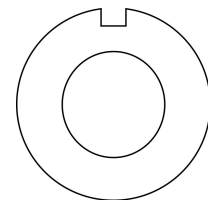

Figure 4-43 Air Rake Alignment Ring
3. Reinstall air rakes making sure that they are oriented as before with the notch on the alignment ring facing up, Figure 4-43.